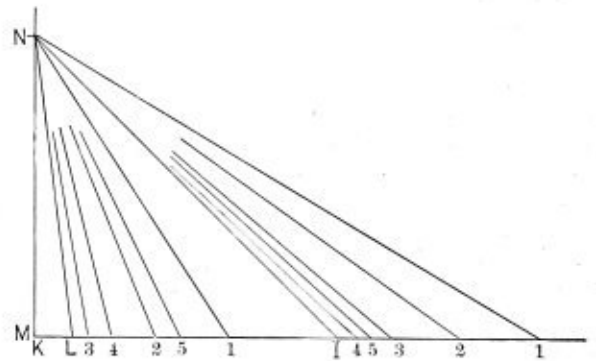

Fig. 3.—Development
*1-B, 2-B, 3-B, 4-B* and *5-B*. Take the distance *1-N*, Fig. 3, and place it on *A-N*, Fig. 4. With the dividers set to the equal spacing on the circle, Fig. 2, and with point *1*, Fig. 4, as a center, strike an arc at *2*. Take the distance *2-N*, Fig. 3, and with *A*, Fig. 4, as a center, strike an arc through point *2*, cutting the arc previously drawn from point *1*. Take the dividers as set, and with point *2*, Fig. 4, as a center, strike an arc through point *3*. Follow out the
same procedure with *N-3, N-4, N-5*, Fig. 3, locating the points *3, 4* and *5*, Fig. 4.
*M-A* and *M-B*, Fig. 1, place them on line *A-B*, Fig. 4, using *A* and *B* as centers. Take the height *M-N*, Fig. 1, and place it on *M-N*, Fig. 3. With the distance *L-K*,
it on *M-1*, Fig. 3. Then take the distance *I-N*, Fig. 3, and with *5* as a center, Fig. 4, cut an arc at *C*. Take the distance *A-C*, Fig. 2, and, taking *A*, Fig. 4, as a center,
Take the distances *1-A, 2-A, 3-A, 4-A* and *5-A*, Fig. 2, and place them on line *M-I*, Fig. 3. Do the same with